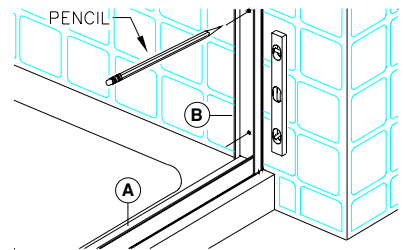

figure 4
5. Place Wall Jambs (B) on to ends of Sill (A) and up against shower walls as shown in figure 4. Plumb the Jambs, then pencil mark their installation holes locations on the shower walls (3 per jamb). Remove Wall Jambs. Using a 3/16" masonry bit, drill 1" deep installation holes in locations previously marked. Insert Plastic Screw Anchors (H) into holes.